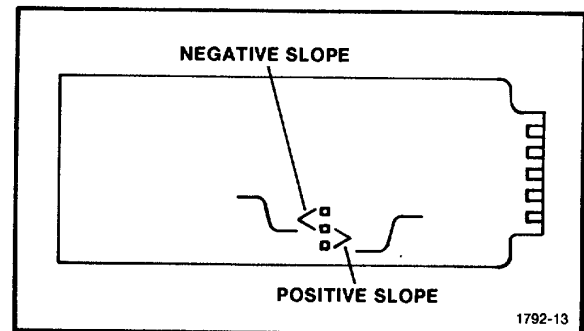

Figure 4-14. Output Module Connection Link.
3. Place the terminal connection link of the OUTPUT MODULE board on the negative slope terminals (see Fig. 4-14).